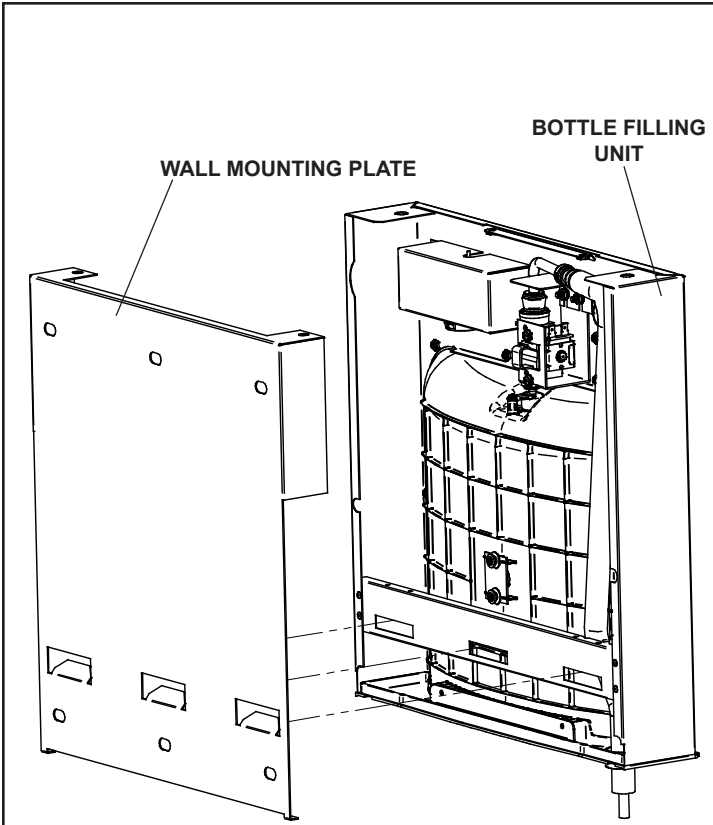

Fig. 12
- 8) **With the power cord and waterline through hole** on top of water cooler place Bottle Filler on the three (3) angled tabs protruding from the wall mounting plate installed on wall. Make sure round boss in gasket fits in hole of basin. (See Fig. 12).
- 9) **Once Bottle Filler is installed on wall plate tabs,** water line and power cord are installed properly, push top of Bottle Filler toward wall and line up top cover two (2) holes.